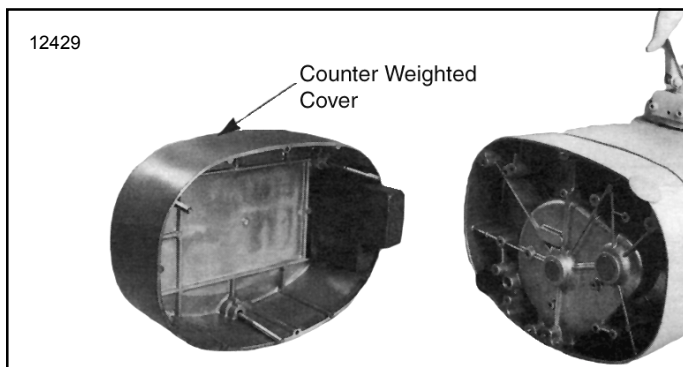

Figure 7-3. View of Hoist with Counterweighted Compartment Cover Removed
- (1) Disconnect hoist from air source. Remove three cover retaining screws and lift off cover (Figure 7-3). Cover screws have retaining rings which hold them in cover. Use caution as cover contains a counterweight.